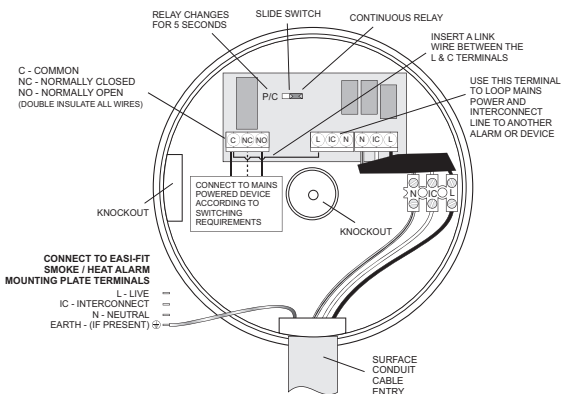
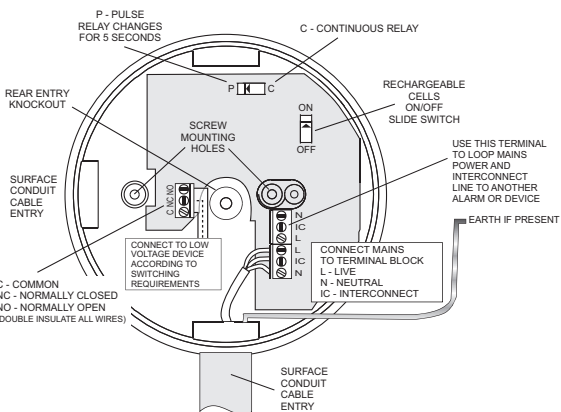

Figure 1a - Ei128R - Wiring details for connecting to a mains powered voltage device
Figure 1b - Ei128RBU - Wiring details for connecting to a low voltage or voltage free device
2. Screw the Relay Base to the ceiling after first removing the required knockout and bringing the house wires through it (see figure 1a for Ei128R & figure 1b for Ei128RBU). If the central knockout is being used, seal around the wires with silicone or similar to prevent air draughts affecting the smoke entering the alarm.
4. Connect the rechargeable cells (Ei128RBU only) by carefully and gently sliding the switch to the “on” position (see figure 1b). This switch must be in the ‘on’ position to ensure correct operation.
2. Screw the Relay Base to the ceiling after first removing the required knockout and bringing the house wires through it (see figures 1a & 1b).
3. Connect the three wires (L - Live, N - Neutral and IC - Interconnect) from the Carbon Monoxide / Smoke / Heat Alarm to the alarm relay module as shown in figures 1a & 1b. The IC - Interconnect wire must be connected even if it is a single alarm installation.
As an Easi-fit Alarm is not being mounted on top of the Relay Base, remove the three cables (for the Easi-fit Alarm connection) from the terminal block and discard (see figures 1a & 1b).
Connect the wires to the required relay contacts for controlling the auxiliary device (the contacts are isolated and are rated at 250VAC, 5 Amps resistive). If momentary (pulse) relay operation is required, carefully and gently slide the yellow switch to the 'P' position with a small screwdriver (see figures 1a & 1b).
If your Relay fails to work after your have carefully read all the instructions, checked that the unit has been installed correctly, and is receiving AC power, then contact Customer Assistance at the nearest address given at the end of this leaflet. If it needs to be returned for repair or replacement, remove the unit and turn off the rechargeable cells with slide switch (*see Figure1b*). Put the Relay in a padded box and send it to "Customer Assistance and Information" at the nearest address given on the unit or in this leaflet. State the nature of the fault, where the Base was purchased and date of purchase.